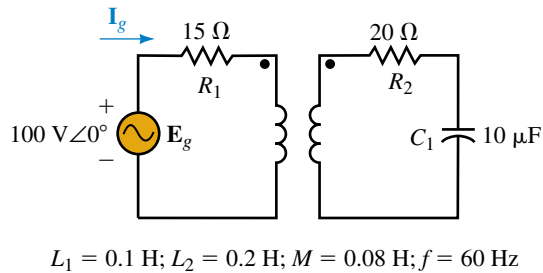

FIGURE 24-83
- 42. For the circuit of Figure 24-83,